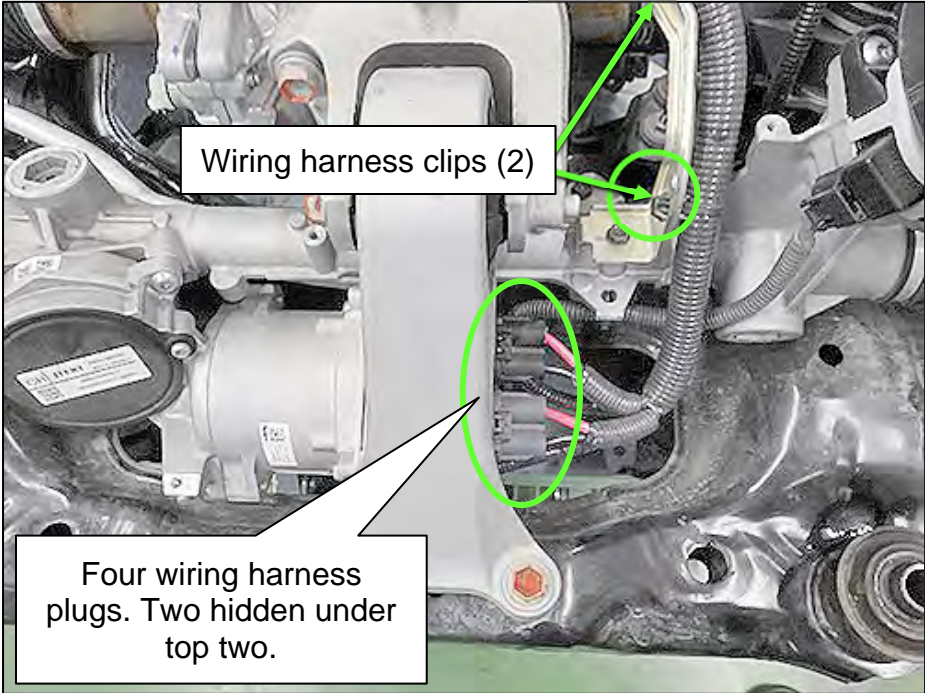

Figure 134
- 156. Connect the four (4) wiring harness plugs of the Electric Power Steering where shown in Figure 134.
- 157. Attach the two (2) Electric Power Steering wiring harness clips (1 hidden in Figure 134).